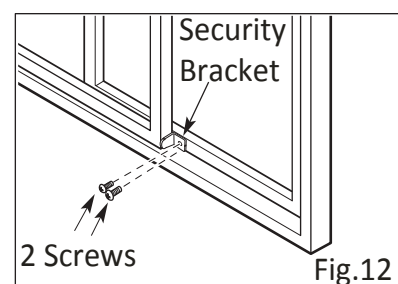

Fig.12
6. If desired, install the security bracket with 2 screws as shown.(see Fig.12)